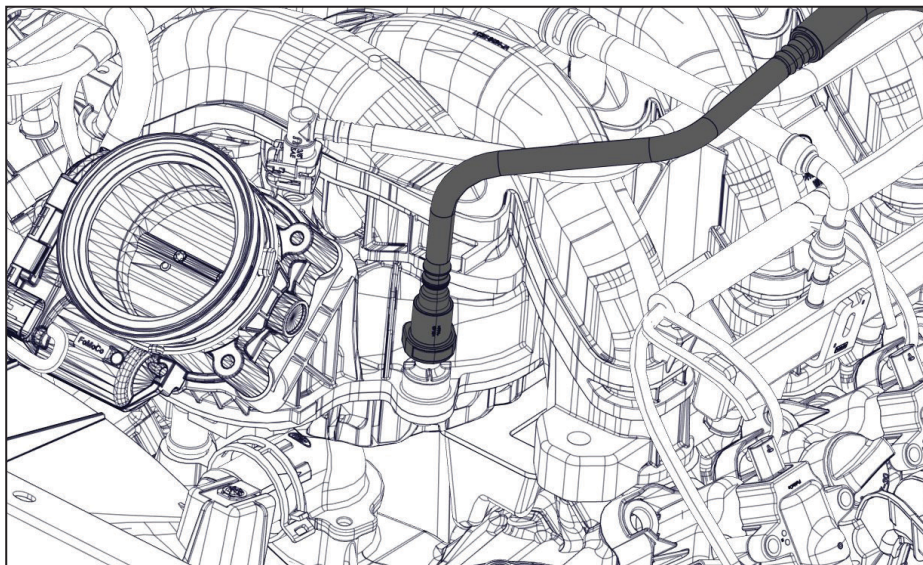

Figure 11 — Disconnect vacuum hose
- Disconnect the lower vacuum hose (Figure 11).